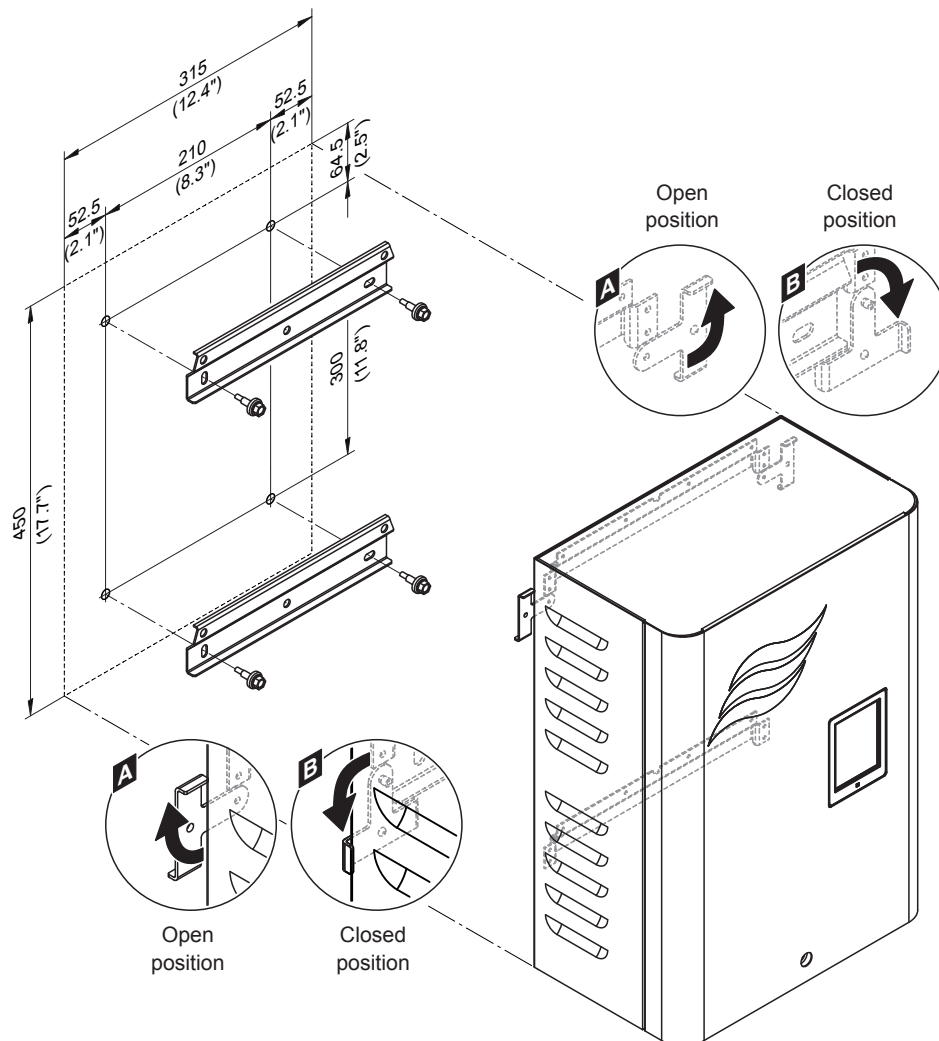

Fig. 32: Mounting the control unit of Condair ME Controls
3. Move the locking hooks on the back of the control panel to open position (see detail "A" in Fig. 32).
5. Move the locking hooks on the back of the control panel to closed position (see detail "B" in Fig. 32) in order to fix the control unit to the upper wall support.